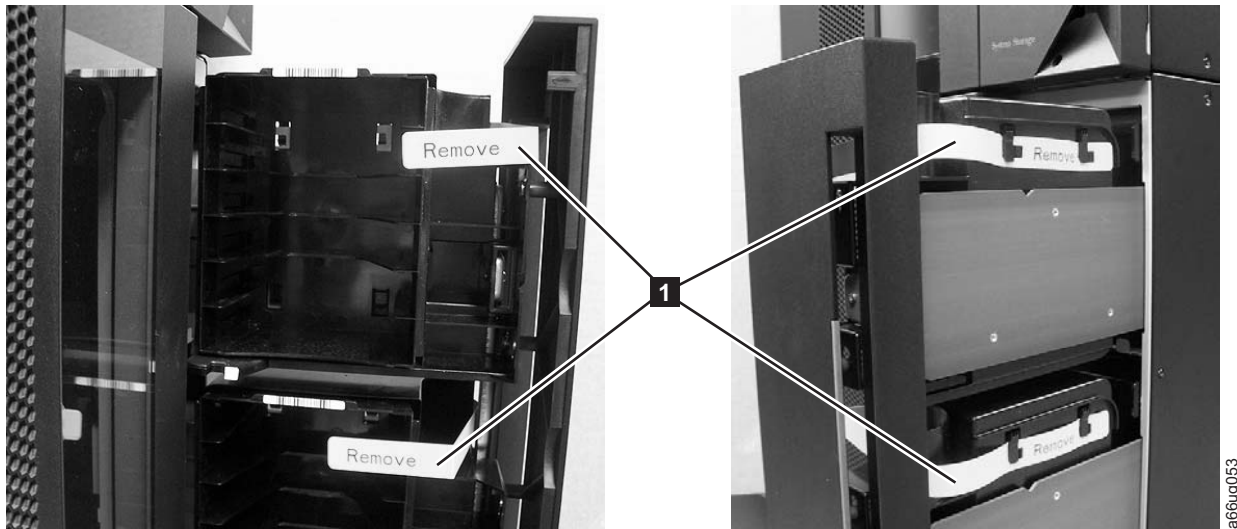

Figure 3-3. Yellow ribbon-like packing pieces
- c. For libraries with the M2-style picker, ensure that you removed the two plastic shipping screws and the orange ribbon from the picker (Figure 3-2 on page 3-4) along with the yellow ribbon-like packing pieces from the I/O stations (Figure 3-3 on page 3-4).
5. Remove the yellow ribbon-like packing pieces (**1** in Figure 3-3) from around the I/O Station magazines.